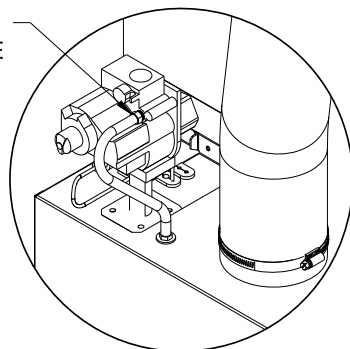

Figure 11-3: Regulator Tube Location On Gas Valve (Direct Vent Boilers Only)
- D. If boiler is installed with a direct vent kit, disconnect the regulator tube from the hose barb on the gas valve (Figure 11-3).
H. If boiler is installed with a direct vent kit, reconnect the regulator tube to the hose barb on the gas valve (Figure 11-3).